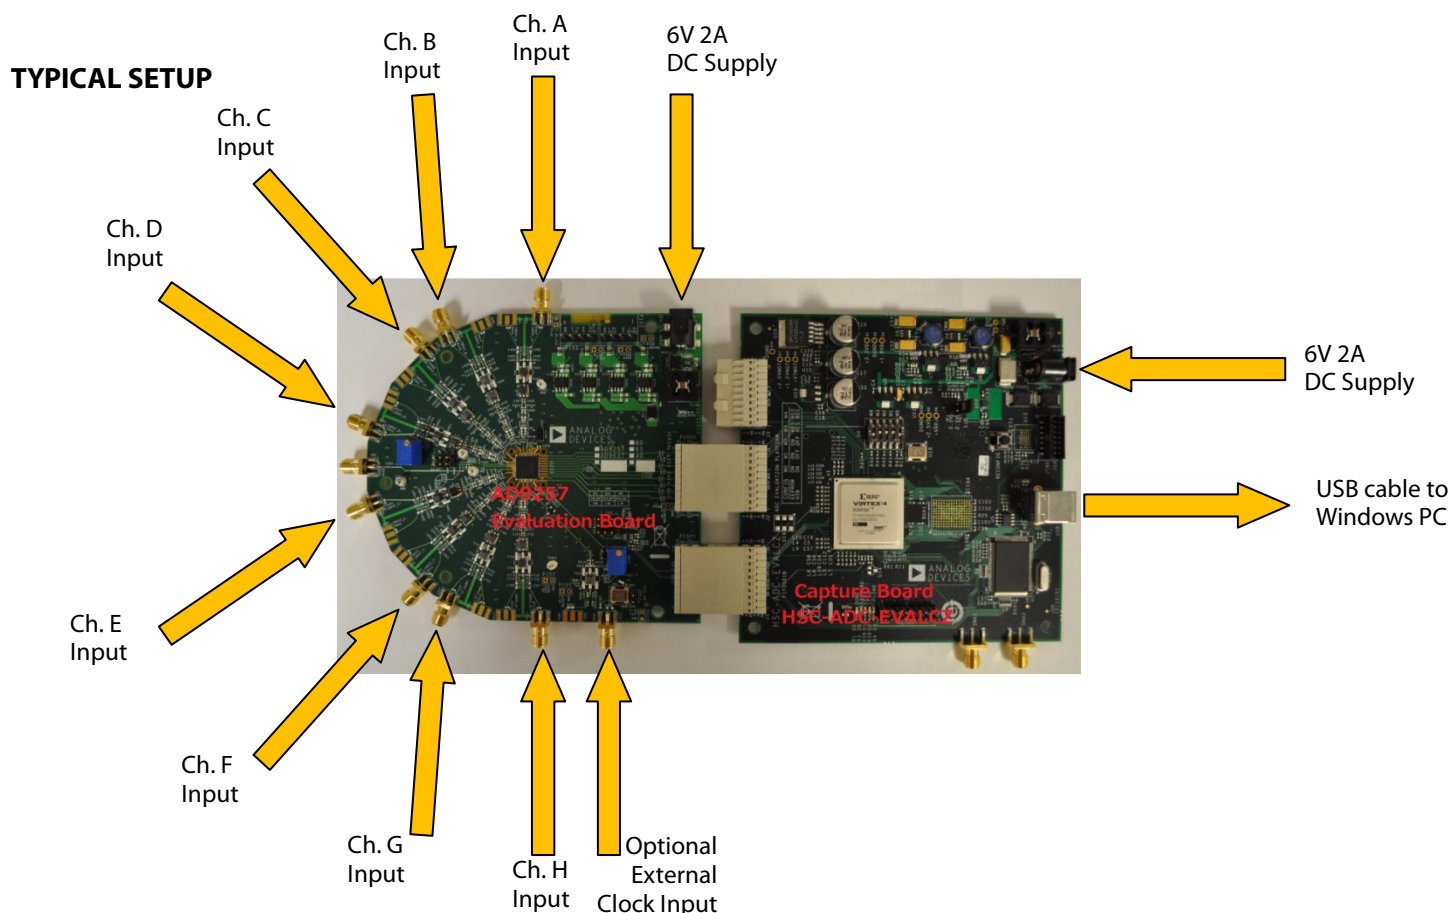

Figure 1. AD9257/AD9637 Evaluation Board and HSC-ADC-EVALCZ Data Capture Board
2. Connect the AD9257/AD9637 evaluation board and the HSC-ADC-EVALCZ board together as shown in Figure 1.